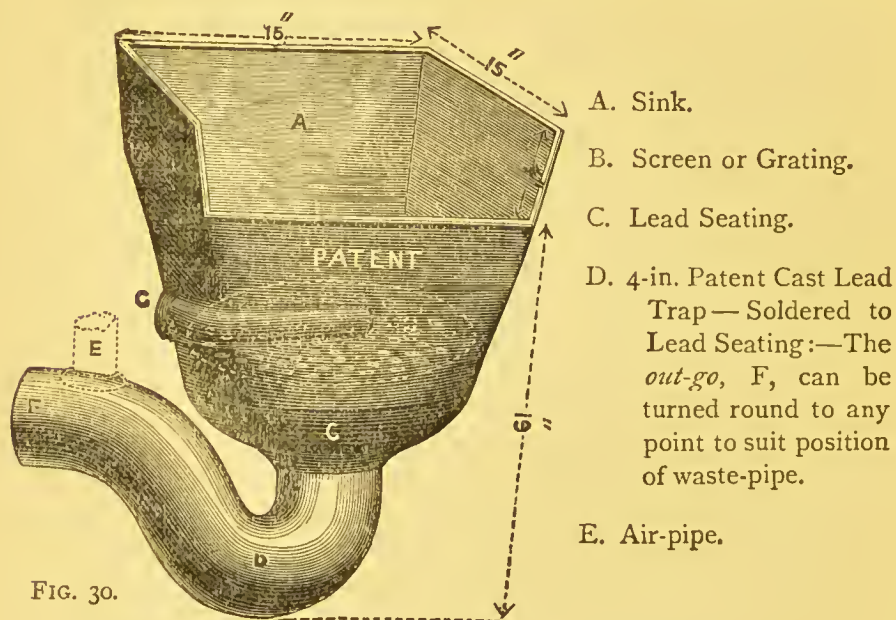
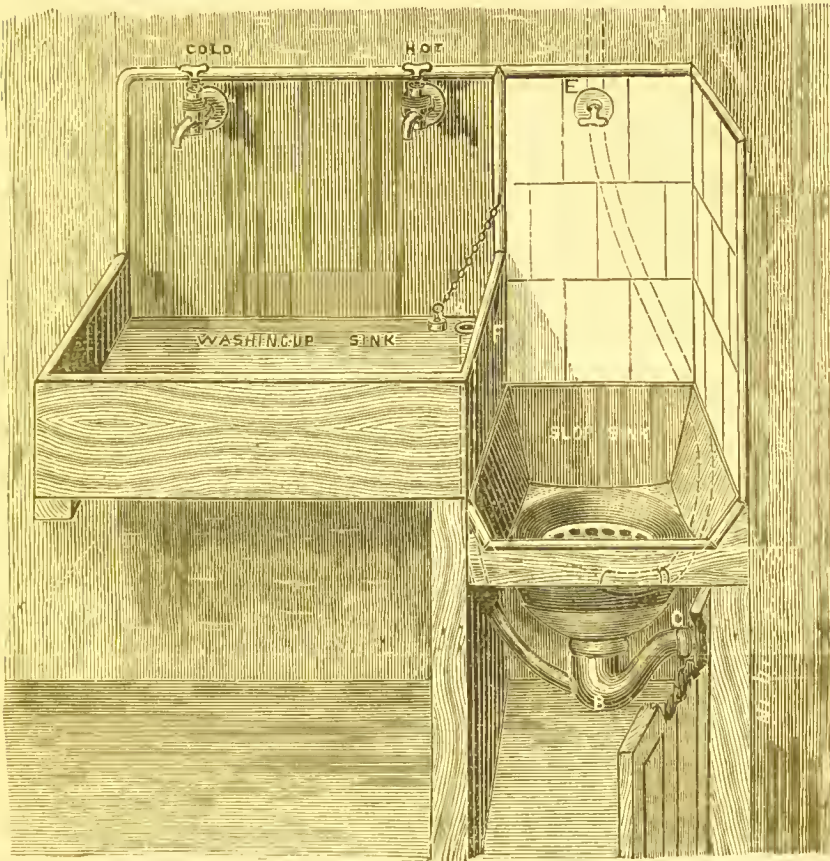
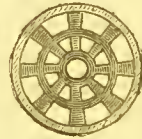

FIG. 30.
FIG. 31.\*
FIG. 32.
A slop-sink can be formed in many ways. It can be fitted up by itself, or attached to an ordinary housemaid's washing-up sink; and thus the two may be combined (see Fig. 31). If cheapness is a consideration, it may be fitted up in a most inexpensive and simple way—in addition to the cost of the waste. All that is necessary is a pottery-ware basin (white inside), large enough to receive a pailful of slops, and for this an ordinary water-closet hopper will do very well. There should be a lead tray over it, standing up about 6 in. at the back and the two sides, and about 2 in. in the front, to prevent splashings over it; and this tray should fall towards the basin with the lead bossed down a couple of inches into it.
*Patent "Water-shoot" Slop-sink.\**—This is a sink, Fig. 30, which the writer has specially designed for receiving slops from pails and chamber utensils.
A means is provided, through an inlet-arm, G, Fig. 30, in the side of the basin, for flushing out the sink with water, and keeping it clean. Means for flushing.
This sink, when fixed up-stairs or inside a house, having a lead waste-pipe from it, should always have a lead trap under it, as shown on Plate 3, Fig. 1. (See Fig. 31, showing a "water-shoot" slop-sink with a housemaid's sink combined.)
*Washing-up Sink and Slop-sink combined.*—The "washing-up" sink, Fig. 31, is a wood sink, lined with tinned copper, the back of which is taken up an inch or two above the hot and cold draw-off supply-valves, to prevent splashings against the wall. A is a plug and washer, as Fig. 32, and from this a 2-in. lead waste-pipe is taken into the trap under the slop-sink.
The slop-sink in the diagram is a patent "water-shoot," as Fig. 30, with a 4-in. patent cast-lead trap, B, Fig. 31, as Fig. 7. A lead "seating" is soldered on the top, or inlet, of this trap, to receive the slop-sink, and the *outgo* of the trap, C, is *soldered* to the waste-pipe.
All such sinks should be fitted with a *strong* sunk plug and washer (see Fig. 32), with a grating formed in the shape of a cobweb in the bottom, for the water to run quickly through, and for durability.
*Scullery-maids' Sinks*, where there is rough usage, and a great deal of rough work in connection with hot-water washings-up, should be made of deal, and lined with tinned copper not less than 4 lbs. to the superficial foot in the bottom, and  $2\frac{1}{2}$  lbs. at the sides. These sinks are very durable, and as they are of a smooth substance they can be kept clean and wholesome, and they are nothing like so damaging to crockery-ware as material of an unyielding nature as slate, iron, stone, and pottery-ware, &c. Fig. 31 shows a "washing-up" sink lined with tinned copper as just described.